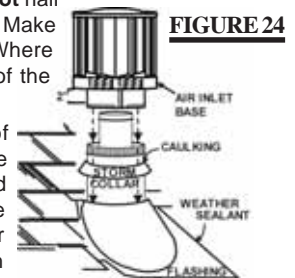

FIGURE 24
5. Thread the air terminal pipe assembly down through the roof support and attach, ensuring that a minimum 16" of air terminal will penetrate the roof when fastened. **FIGURE 24**. **If the attic space is tight, we recommend threading the Wolf Steel vent pipe collar or equivalent loosely onto the air terminal assembly as it is passed through the attic.** The air terminal must be located vertically and plumb.